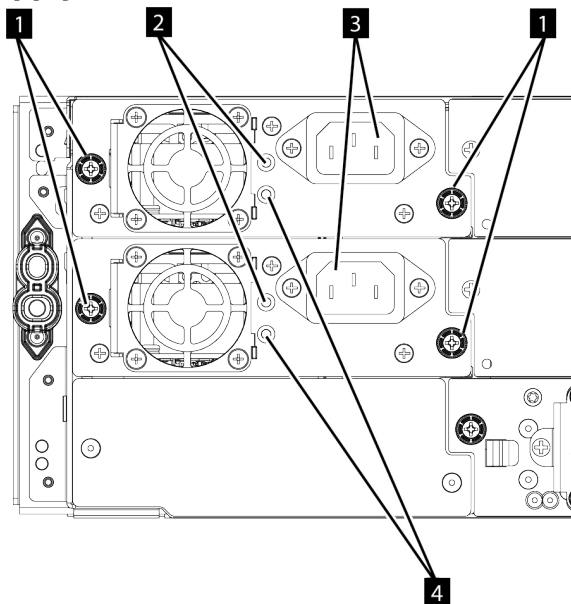

Figure 67. Power supplies
1. If AC power is plugged into the power supply and the library is turned on, both the white LED (2 in Figure 67 on page 148) and the green LED (4 in Figure 67 on page 148) will be lit.